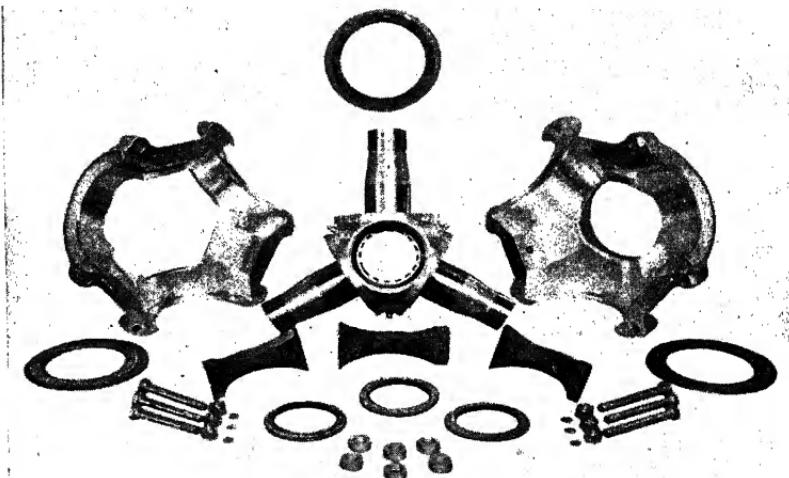

FIG. 4.—Parts of a three-blade propeller hub.
**Description of Parts.**—The *spider* is a chrome-nickel-molybdenum steel forging. Its splines, cone seats, and arms are machined to close tolerances. It connects the propeller to the engine and carries the torque and thrust loads on the blades. Figure 4 shows its various parts.
Its splines, cone seats, and arms are machined to close tolerances. It connects the propeller to the engine and carries the torque and thrust loads on the blades. Figure 4 shows its various parts.